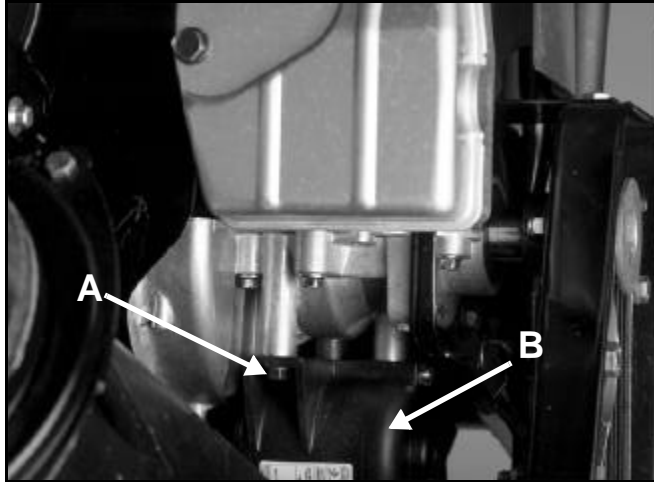

Figure 144 1352-15
7. On the starter, remove the top bolt on the upper starter mounting plate (Figure 144).